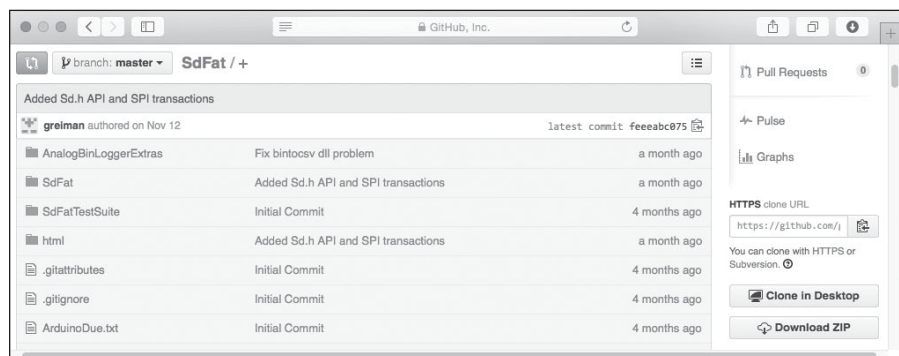

Figure 8-14: Library download page
1. Visit <https://github.com/greiman/SdFat/> and click the **Download ZIP** button. Figure 8-14 shows this web page.